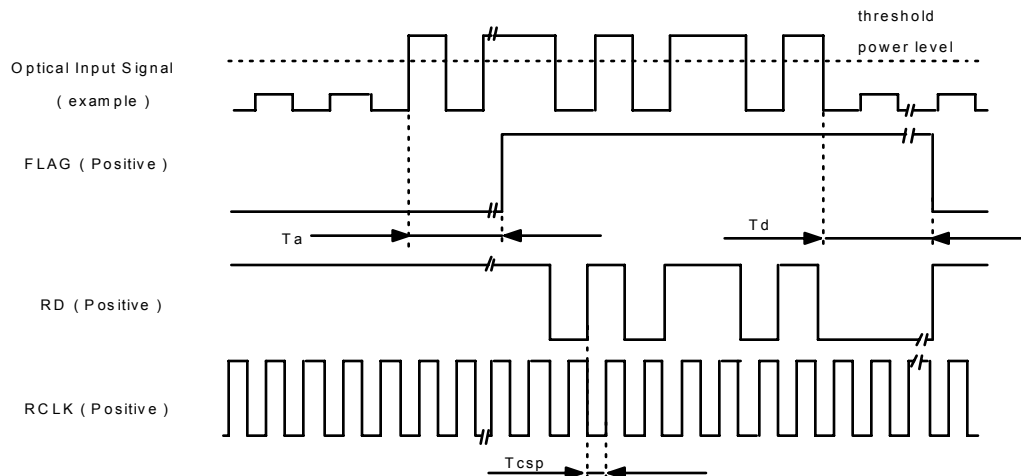

Figure 3. Timing Chart
6. Phase difference between rising edge of RD and rising edge of RCLK. Refer to Figure 3.
6. Refer to Figure 3.